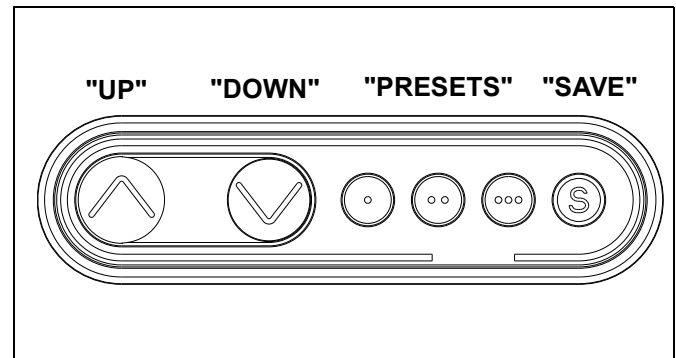

Figure 7
12. Press and hold "DOWN" button for three seconds to initialize lift mechanism. (See Figure 7)
13. Press and hold "UP" button until mount reaches it's maximum height. (See Figure 7)